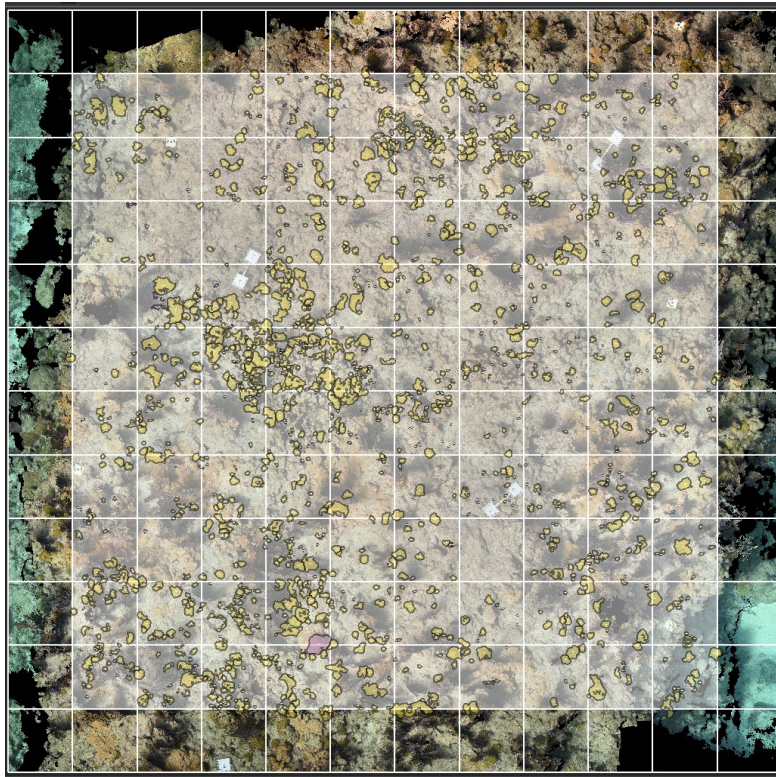

Figure 150. Example of a finished 100-m2 plot in TagLab.
5. Continue until all 100 cells in the inner 10 × 10 m grid have been completed (Figure 150).